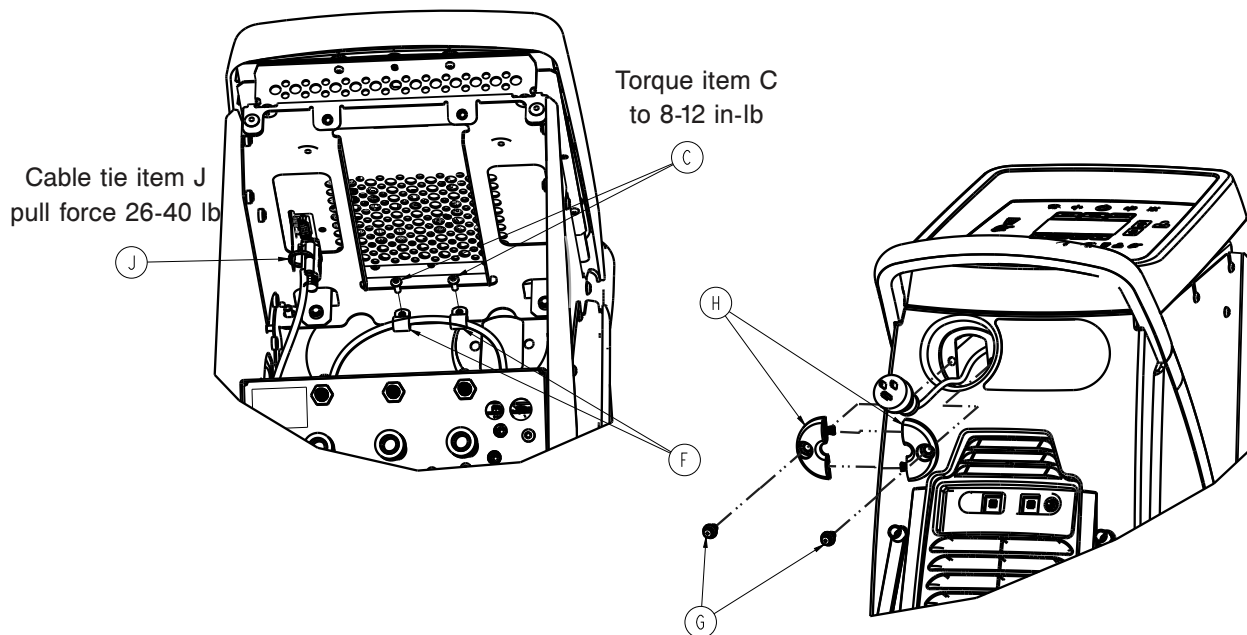

Figure 14: Power cord to the top bracket
- Using a T25 torx, remove and save the two screws (C) and cable clamps (F) that secure the power cord to the top bracket (Figure 14 on page 25).